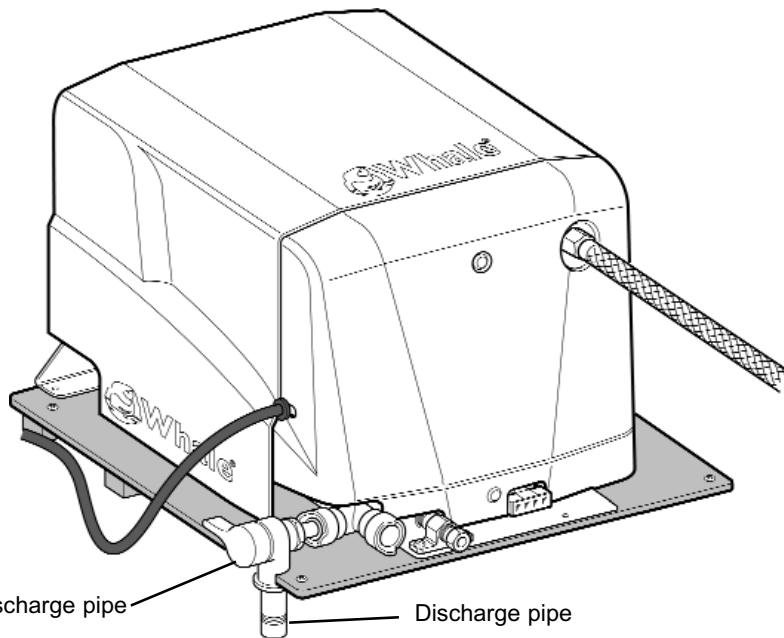

Fig. 14
Step 6 Fitting the Drain Pipes (see Fig. 14)